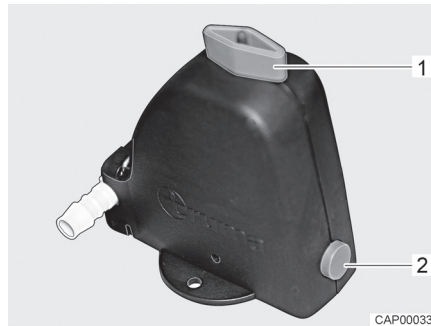
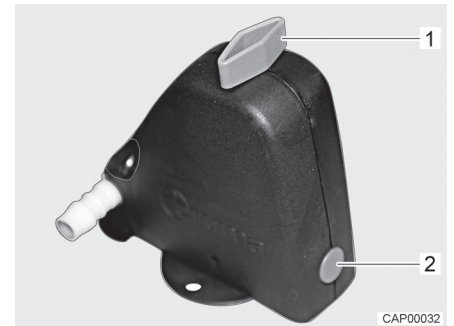

Fig. 71 Safety/drainage valve open
Fig. 72 Safety/drainage valve closed
- Close the safety/drainage valve. Turn the knob (Fig. 71,1) perpendicular to the safety/drainage valve and push the push button (Fig. 71,2) in. The closed safety/drainage valve is shown in Fig. 72. If the temperature is below 6 °C, the safety/drainage valve cannot be closed.